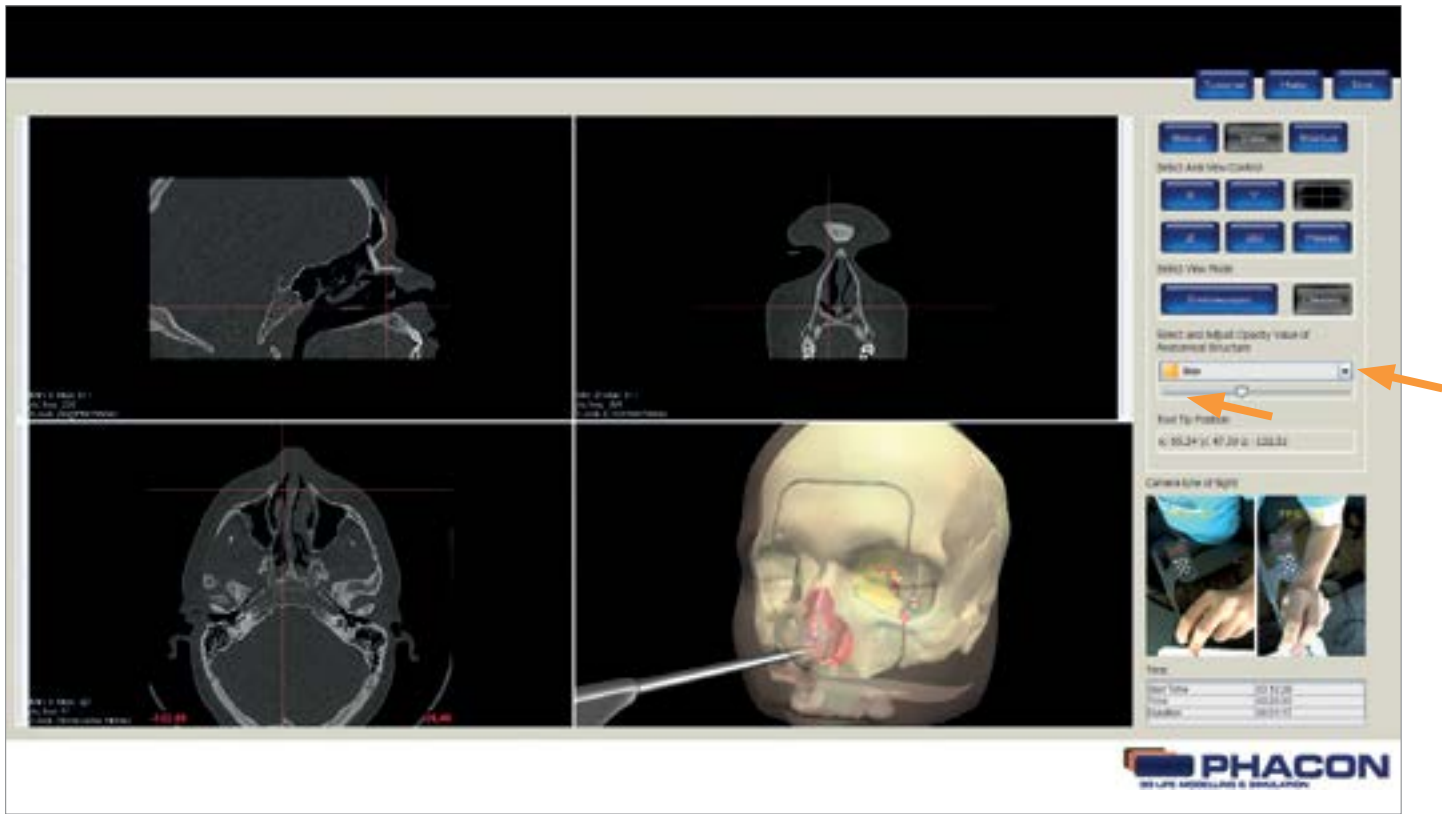

Fig.: 12
1. Click on the drop-down list and select the desired anatomical structure (Fig.12).